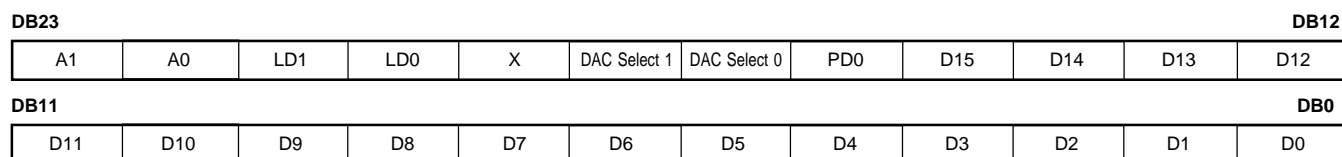

FIGURE 3. DAC8534 Data Input Register Format.
The input shift register (SR) of the DAC8534 is 24 bits wide, as shown in Figure 3, and is made up of 8 control bits (DB16-DB23) and 16 data bits (DB0-DB15). The first two control bits (DB22 and DB23) are the address match bits. The DAC8534 offers additional hardware-enabled addressing capability allowing a single host to talk to up to four DAC8534s through a single SPI bus without any glue logic, enabling up to 16-channel operation. The state of DB23 should match the state of pin A1; similarly, the state of DB22 should match the state of pin A0. If there is no match, the control command and the data (DB21...DB0) are ignored by the DAC8534. That is, if there is no match, the DAC8534 is not addressed. Address matching can be overridden by the broadcast update, as will be explained.